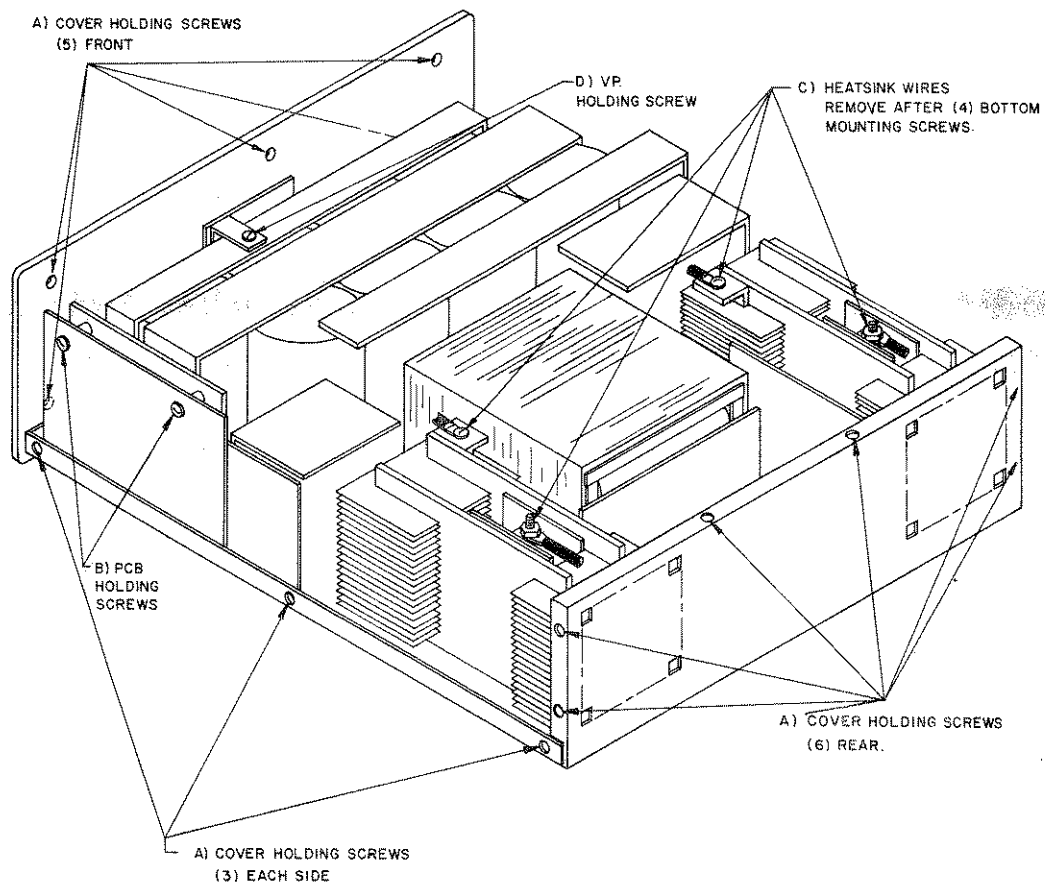

FIG. 5-1 DISASSEMBLY, JQE FULL-RACK MODELS
### 5-3 DISASSEMBLY (Refer to FIG. 5-1)
- a) COVER REMOVAL. The wrap-around cover may be taken off by loosening and removing its (17) holding screws, as indicated.
- b) CIRCUIT BOARD REMOVAL. The printed circuit board is mounted with two (2) screws, which are removed from the side. After removal of the three printed circuit board connectors, the board may be lifted from its slide-guide.
- c) HEAT SINK REMOVAL. The heat sink assemblies are mounted with four (4) screws each to the chassis bottom. After the screws are taken out, the indicated wires may be removed and the assemblies lifted from the chassis.
- d) OVERVOLTAGE PROTECTOR (A4) REMOVAL. (On models with suffix—"VP" only). Remove the holding screw as indicated (Refer to FIG. 5-1) and lift assembly out.